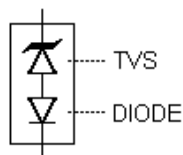
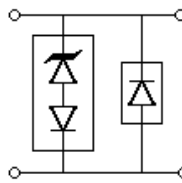

FIGURE 4
FIGURE 5
The TVS low capacitance device configuration is shown in Figure 4. As a further option for unidirectional applications, an additional low capacitance rectifier diode may be used in parallel in the same polarity direction as the TVS as shown in Figure 5. In applications where random high voltage transients occur, this will prevent reverse transients from damaging the internal low capacitance rectifier diode and also provide a low voltage conducting direction. The added rectifier diode should be of similar low capacitance and also have a higher reverse voltage rating than the TVS clamping voltage V_C . Consult factory for recommended rectifier part number. If using two (2) low capacitance TVS devices in anti-parallel for bidirectional applications, this added protective feature for both directions (including the reverse of each rectifier diode) is also provided. The unidirectional and bidirectional configurations in Figure 5 and 6 will both result in twice the capacitance of Figure 4.